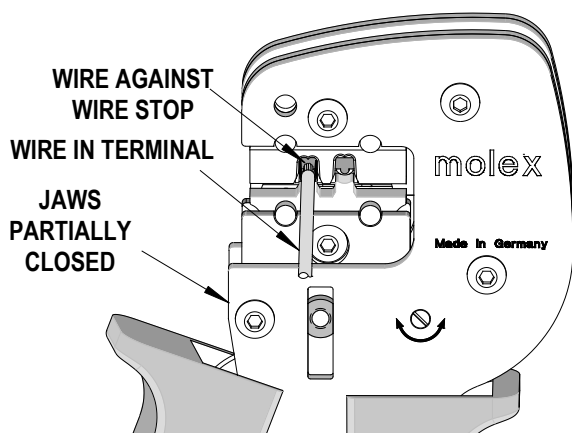

Figure 4
2. Insert the proper pre-stripped wire over the terminal. Gently touch the wire stop with the end of the wire. See Figure 4 and 5.